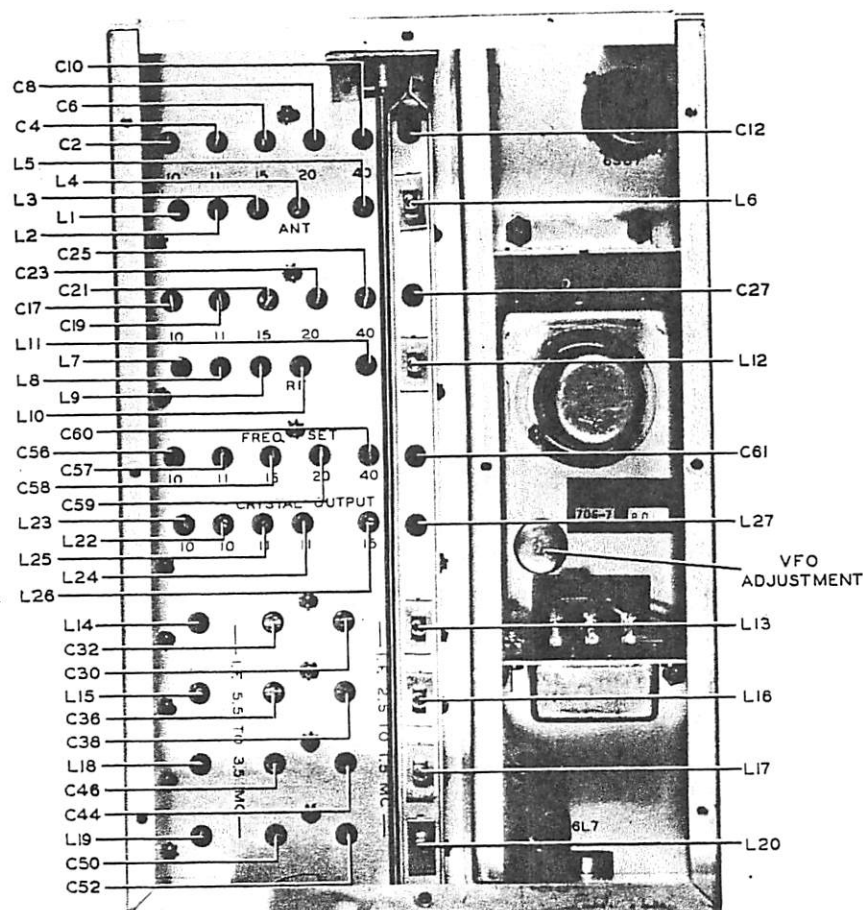

FIGURE 5-1 RF, VARIABLE IF, AND OSCILLATOR ADJUSTMENT
5-22. GENERAL. - The variable i-f channel should be aligned after the 500 kc fixed channel has been aligned. There are two channels in the variable i-f (2.5 to 1.5 mc and 5.5 to 3.5 mc), therefore, two sets of coils must be aligned. The low frequency channel (2.5 to 1.5 mc) must be aligned first. The alignment follows standard procedure where permeability tuned coils are concerned, i.e., tune the capacitor trimmer for the high frequency end of the tuning range and the iron core for the low frequency end of the tuning range. In the high frequency channel (5.5 to 3.5 mc) the iron cores tune very broadly. Refer to figure 5-1 for alignment adjustments.
There is only one adjustment on the VFO. This is a variable condenser which may be observed through the top of the oscillator container by removing a clip plug. (See figure 5-1.) The main object in aligning the VFO is to make the 2mc and 3 mc points fall exactly ten turns of the vernier dial apart, after which the dial may be loosened, if necessary, and the dial calibration corrected. Be sure the 500 kc i-f channel is aligned as indicated in paragraphs 5-16 thru 5-20 before attempting to align the VFO.
- d. Rotate the inductor trimmers in L22 and L23 for maximum reading on the voltmeter. (See figure 5-1.)